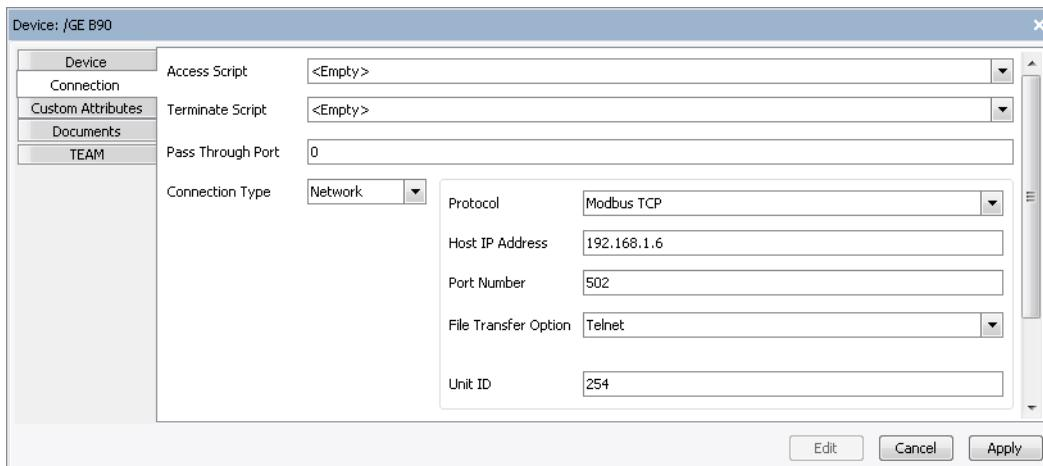

Figure 56 Connection Settings
- Step 5. Under the **Connection** tab, specify the **Connection Type** as **Network** and **Protocol** as **Modbus TCP**. Enter the IP address and port number of the IED (the port number is usually 502 for Modbus connections) and set the **File Transfer Option** to **Telnet**. Set the **Unit ID** to that of the IED (254 is the default), as shown in *Figure 56*. Select **Save All** (disk icon).